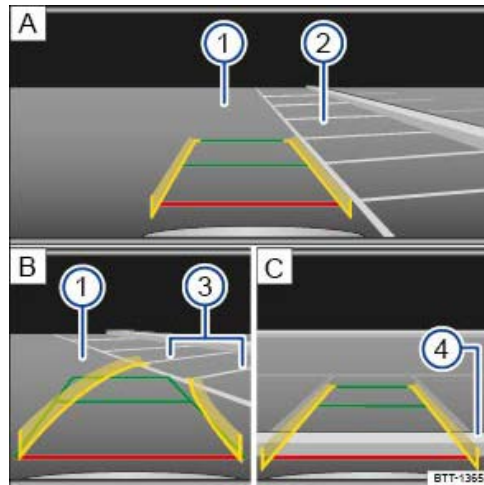

Fig. 183 Screen display: parking using the rear view camera system, mode 1.
Key to → Fig. 183:
Key for → Fig. 183
- Position the vehicle in front of the parking space ② → Fig. 183 **A**.
- Reverse slowly and steer the vehicle so that the yellow lines along the side limits ③ are aligned with the selected parking space **B**.
- Position the vehicle in the selected parking space so that the green and yellow lines are aligned with the side limits ③ of the selected parking space.
- At the very latest, stop the vehicle **C** when the red line reaches the rear limit, e.g. the kerb ④.